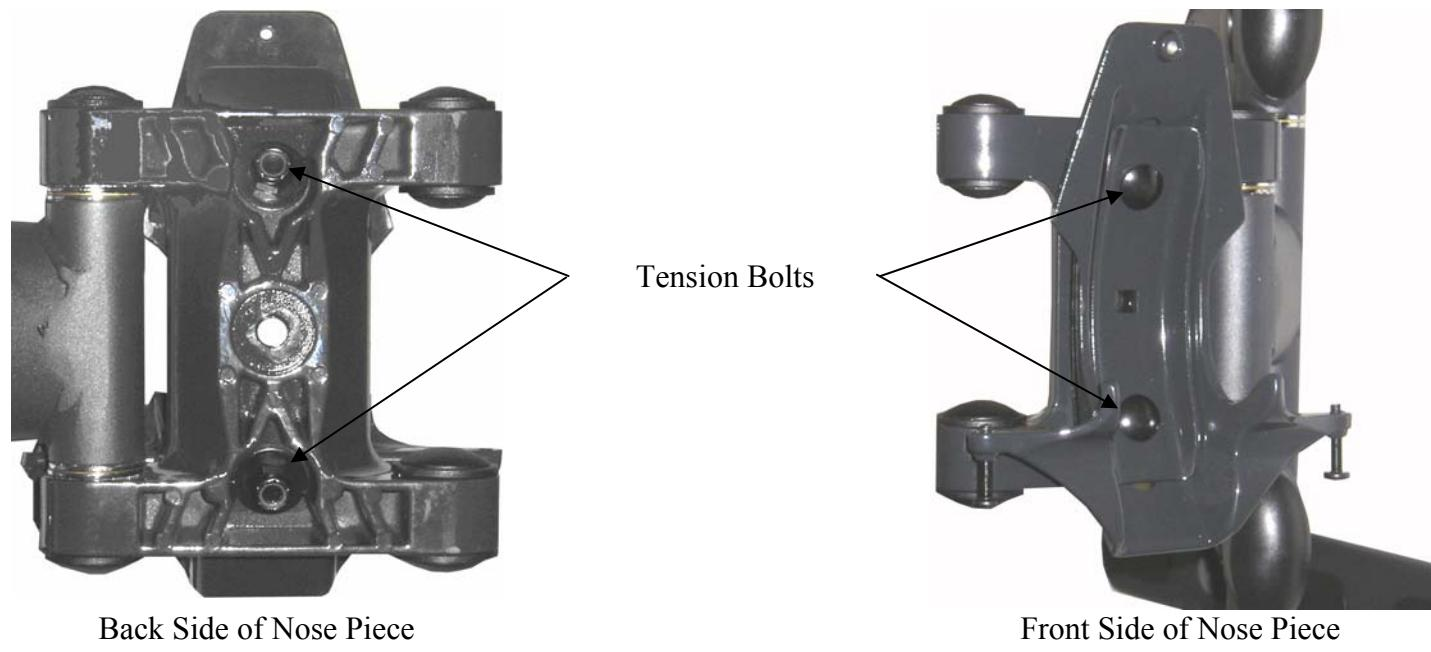

Figure 8
3. Slide the tension bolt back into the holes and attach the nuts from the backside of the nose assembly. Tighten the tension bolts. (Figure 8).